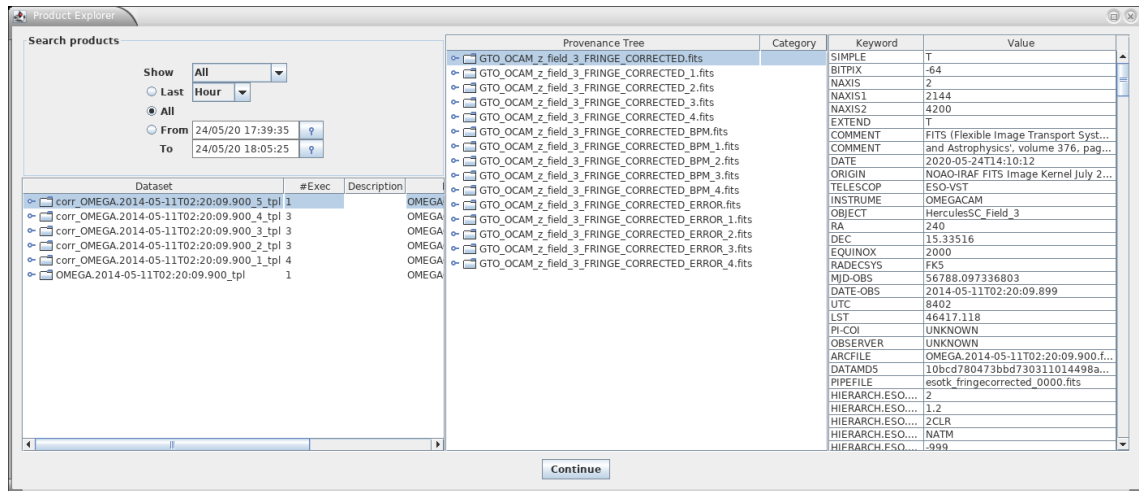

Figure 6.4: The Product Explorer shows all datasets reduced in previous executions together with the full reduction chain for all the pipeline products..
9. Once the reduction of all datasets has finished, a pop-up window called *Product Explorer* will appear, showing the datasets which have been reduced together with the list of final products. This actor allows the user to inspect the final data products, as well as to search and inspect the input data used to create any of the products of the workflow. Figure 6.4 shows the *Product Explorer* window. A full description of the *Product Explorer* will be presented in Section 8.2.4.
The ProductExplorer is an interactive component in the `esoreflex` workflow whose main purpose is to list the final products with the associated reduction tree for each dataset and for each reduction attempt (see Fig. 6.4).
The left window of the ProductExplorer GUI shows the executions for all the datasets (see Fig. 6.4). Once you click on a dataset, you get the list of reduction attempts. Green and red flags identify successful or unsuccessful reductions. Each reduction is linked to the "Description" tag assigned in the "Select Dataset" window.